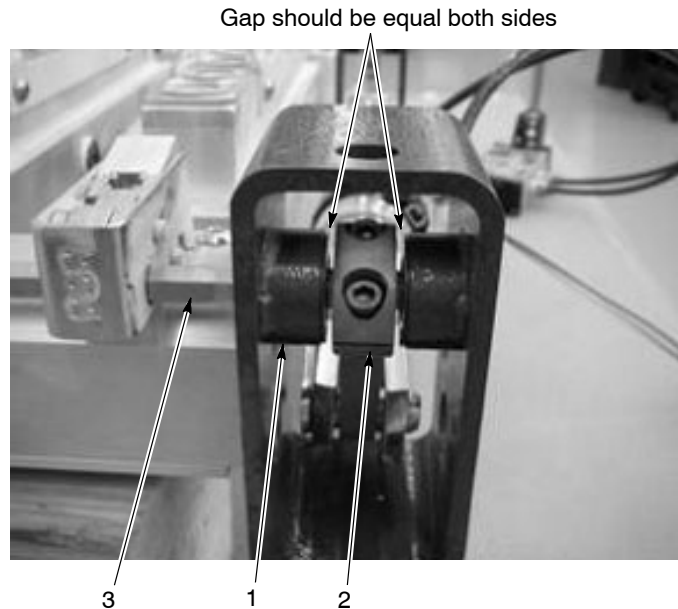

Figure 8-3 Lever Position – Step 4
4. See Figure 8-3. If all latches have been removed from the hex shaft, push or pull on the hex shaft (4) to center the lever (2) in the yoke (1) before you tighten the set screw to secure the latch to the hex shaft.